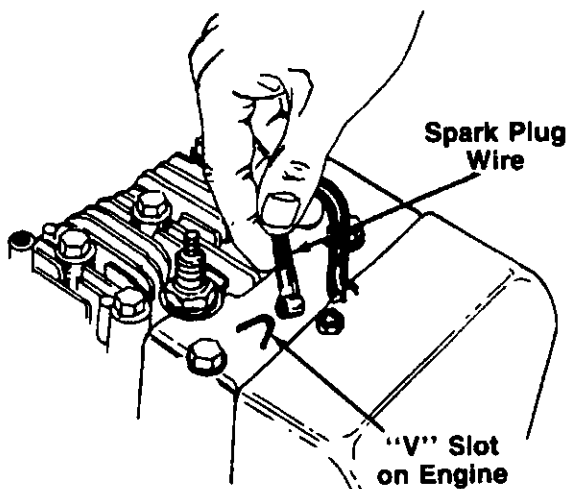

FIGURE 14.
1. Disconnect the spark plug wire from the spark plug to prevent accidental starting. Secure the end of spark plug wire in the "V" slot on the engine. See figure 14.